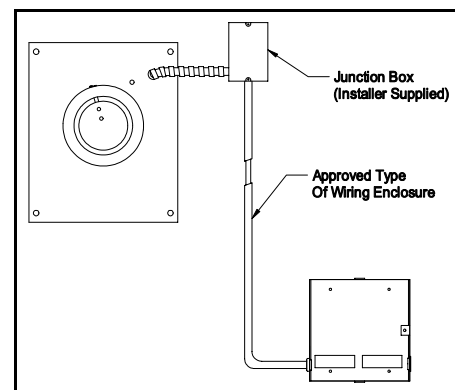
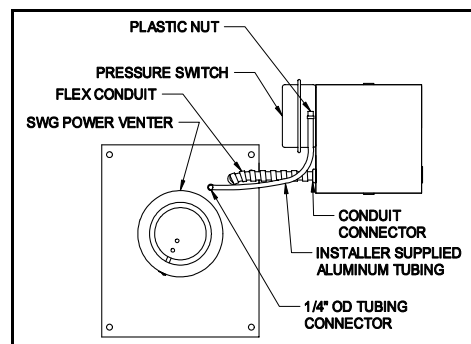

Figure 2
Figure 3
2. Fasten the flexible conduit from the SWG Venter into the conduit connector. Mount the CK-41P control box onto a non-heated vertical surface of the appliance or nearby wall or floor joist through the four dimpled locations on the base of the box. **NOTE: The mounted pressure switch diaphragm must be mounted with a vertical orientation; see label on pressure switch.** (See Figure 3) If required, run additional wiring as in figure 2 and connect to CK-41P control box, if required, using the supplied flexible conduit connector and approved connectors and anti-short bushings.
1. Attach the 1/4 inch tubing connector to the pressure tube on the SWG Venter. (See Fig. 3)